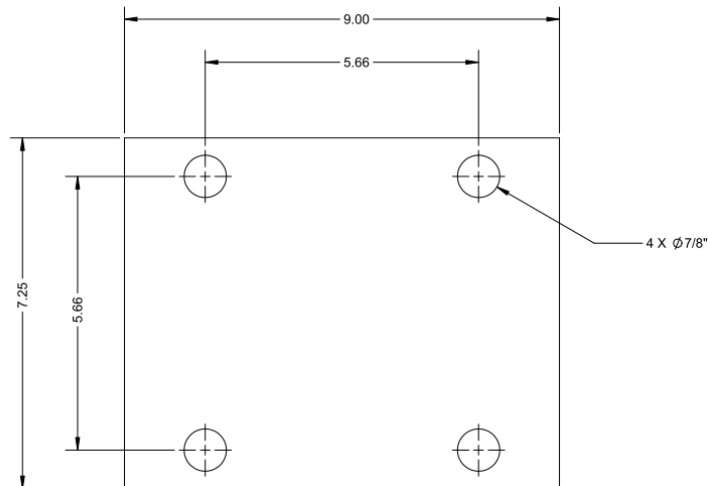
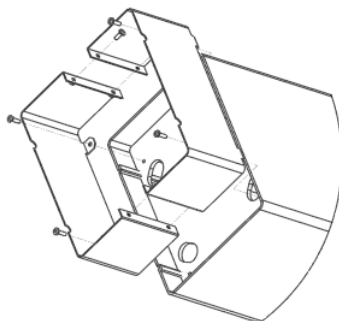

Figure 1 - Anchor Positioning
Figure 2 - Skirt Assembly
- 3) For a Mounting hole pattern a cardboard mounting template is included with the Tower (Guardian P/N: P007745). See Figure 1 for positioning of the anchors and Figure 2 for the ideal height for the nuts/washer on the anchors.